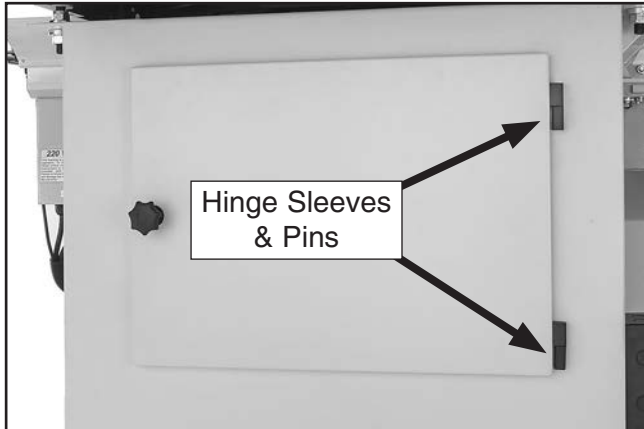

Figure 22. Cabinet door attached on hinges.
- Attach cabinet door by sliding hinge sleeves over pins of already attached hinge (see **Figure 22**).